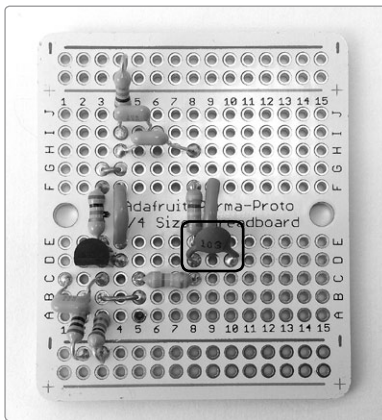
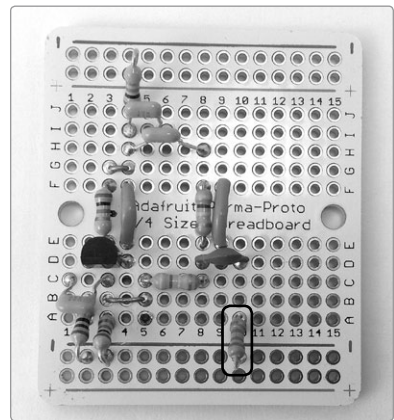

FIGURE 14-16: *Adding the 0.01 μ F capacitor to the resistor *T**
FIGURE 14-17: *Finishing off the resistor *T* with a 33k ohm resistor linking the 0.01 μ F capacitor to the ground*
Step 14 Add the 0.01 μ F capacitor horizontally from 8D to 10D (see Figure 14-16). The final 33k ohm resistor (orange-orange-orange stripes) will vertically connect that 0.01 μ F capacitor to the ground, running from pad 10A straight down to the ground rail, as shown in Figure 14-17. (You'll note that none of this looks even remotely like a *T* once it's laid out on the PCB.) Solder all these fellas down now.